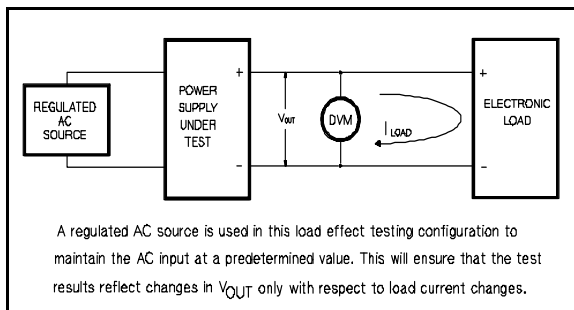

Figure A-6. Basic Test Setup
- a. Connect the test equipment across the output of the +20V supply as shown in Figure A-6. Operate the electronic load in constant current mode and set its current to the full rated value of the +20V supply. Input off the electronic load.
- b. Connect the test equipment across the output of the +20V supply as shown in Figure A-6. Operate the electronic load in constant current mode and set its current to the full rated value of the +20V supply. Input off the electronic load.
- Connect the test equipment across the output of the +20V supply as shown in Figure A-6, but replace the DVM with the oscilloscope. Operate the electronic load in constant current mode.
- a. Connect the test equipment across the output of the +20V supply as shown in Figure A-6.